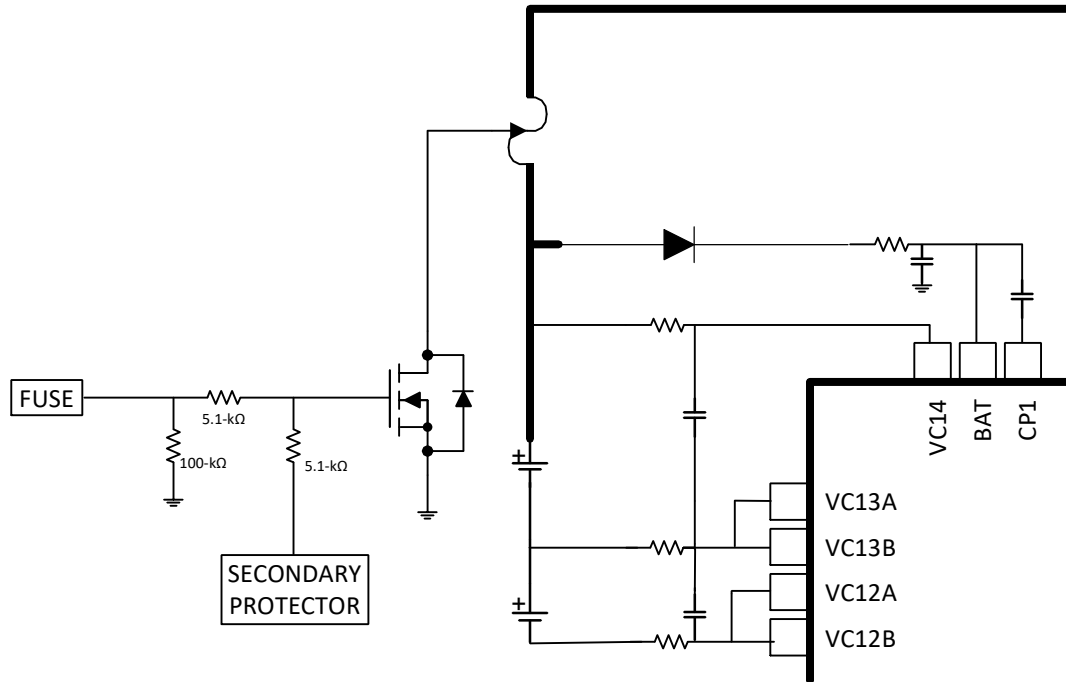

图 12-1. FUSE Pin Operation
The FUSE pin on the BQ769142 device can be used to blow a chemical fuse in the presence of a Permanent Fail (PF), as well as to determine if an external secondary protector in the system has detected a fault and is attempting to blow the fuse itself. The pin can drive the gate of an NFET, which can be combined with the drive from an external secondary protector, as shown in 图 12-1. When the FUSE pin is not asserted by the BQ769142 device, it remains in a high-impedance state and detects a voltage applied at the pin by a secondary protector. The device can be configured to generate a PF if it detects a high signal at the FUSE pin.